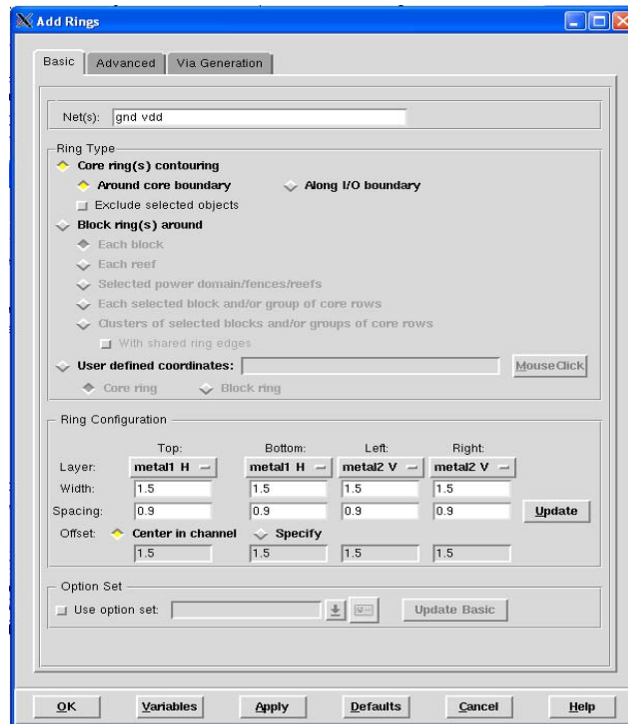

Fig 19: Add power rings dialog settings
- In the **Add Rings** dialog that pops up (Fig. 19), make sure the net names **gnd** and **vdd** are in the **Nets(s)** text box.
- In the **Ring Configuration** section, select **Center in channel**. Review your settings (they should match Fig. 19). Then click **OK**. In the Encounter window, you will see power rings created around the periphery of your design.